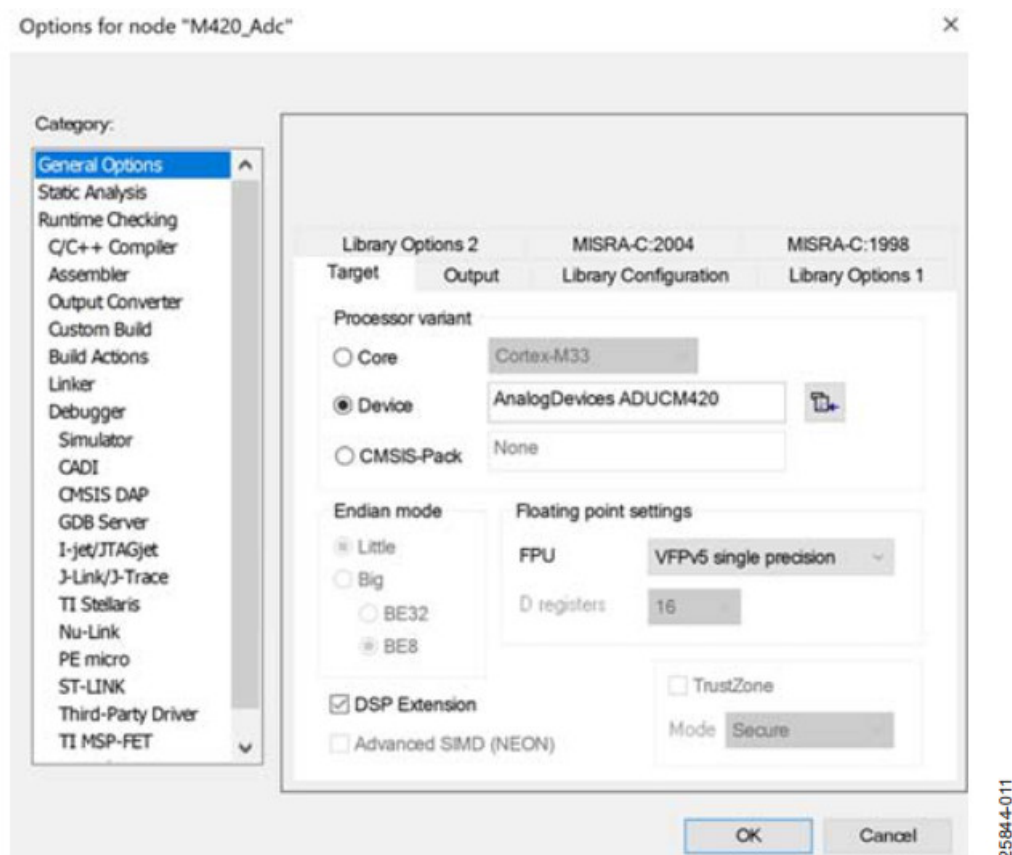

Figure 25. IAR IDE **General Options**
- From the Category section, click General Options. Then click the Target tab, and ensure the FPU box in the Floating point settings section is set to VFPv5 single precision, as shown in Figure 25.